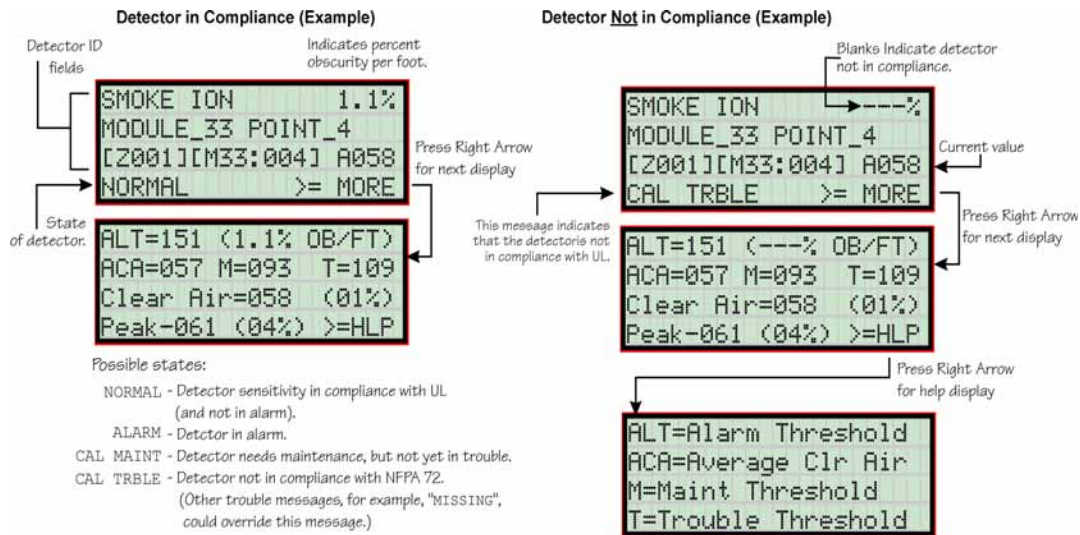

Figure 8-3 Checking Detector Sensitivity Compliance
- A screen similar to those shown in Figure 8-3 will display.